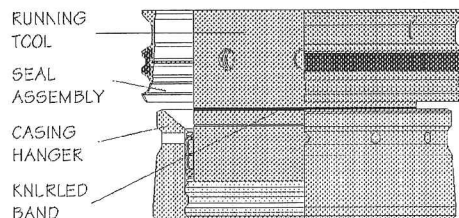

Figure 19. Detail of the Running Tool knurled band visible through the gap between the Seal Assembly and Casing Hanger
15. Verify the Running Tool is fully made up by observing the knurled indicator band. The band is $\pm 1/4$ " from the top of the Casing Hanger when the Running Tool is fully made up to the Casing Hanger. Refer to **Figure 19**.